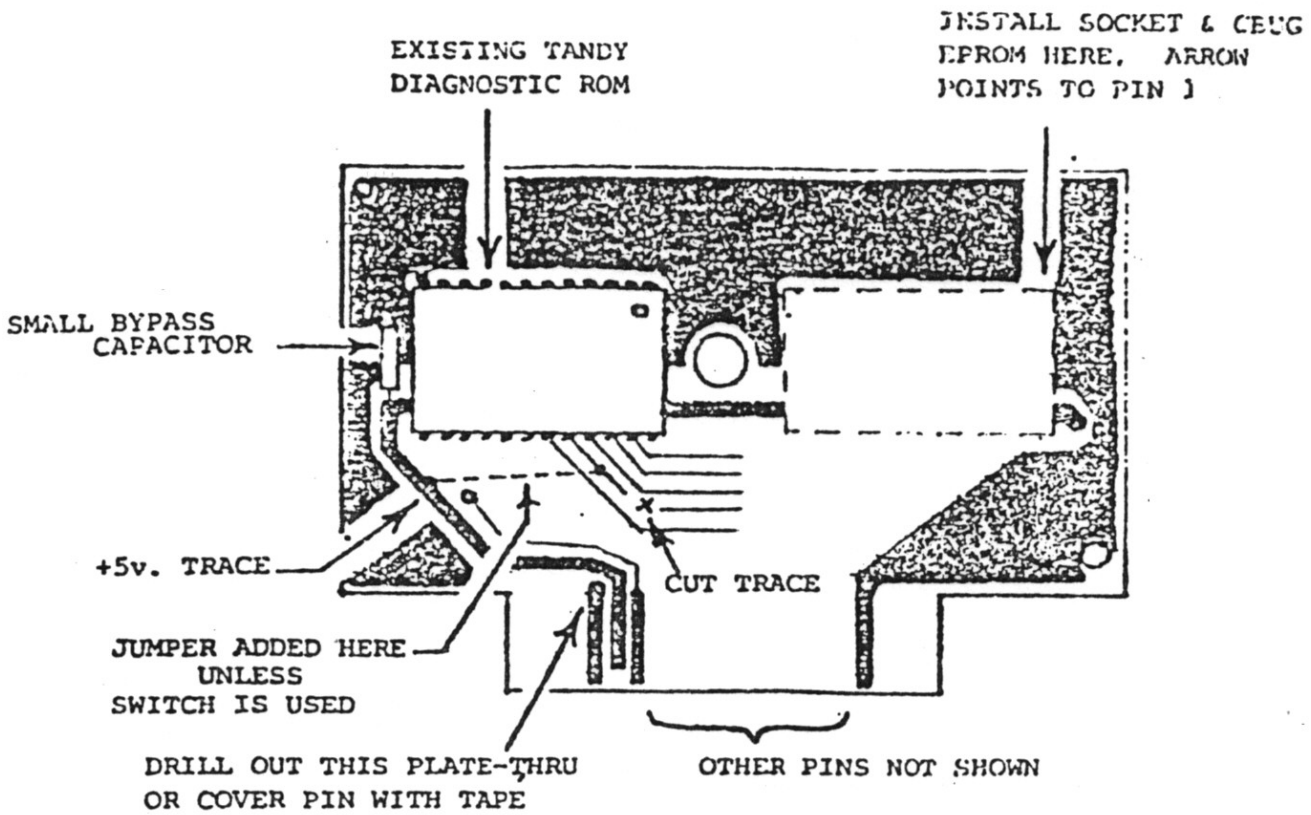

FIG. 1
1. Cut the trace to the Tandy ROM's pin 20, about 1/2 inch away from the chip. This is the chip select. Pin 20 of a ROM must be pulled high to disable it. If you intend not to use the Tandy ROM, simply wire its pin 20 to the +5 volt trace as in figure 1. Otherwise follow step 5 to install a switch.
6. Cover with tape the trace shown in figure 1. This trace causes the computer to jump to the ROM pack on power-up; covering the trace (or drilling out the plate-thru hole) will allow the computer to start in Basic.